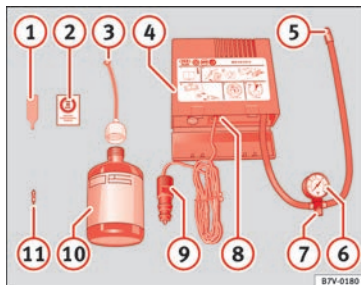

Fig. 67 Standard representation: contents of the anti-puncture kit.
- Unscrew the tyre valve cap and insert. Use the »»» Fig. 67  tool to remove the insert. Place it on a clean surface.
- Shake the tyre sealant bottle vigorously »»» Fig. 67 .
- Screw the inflator tube »»» Fig. 67  into the sealant bottle. The bottle's seal will break automatically.
- Remove the lid from the filling tube »»» Fig. 67  and screw the open end of the tube into the tyre valve.
- Place the insert back into the tyre valve using the tool »»» Fig. 67 .
- Screw the compressor tyre inflator tube »»» Fig. 67  into the tyre valve.
- Check that the air bleed screw is closed »»» Fig. 67 .
- Insert the connector »»» Fig. 67  into the vehicle's 12-volt socket »»»  page 152.
- Turn the air compressor on with the ON/OFF switch »»» Fig. 67 .